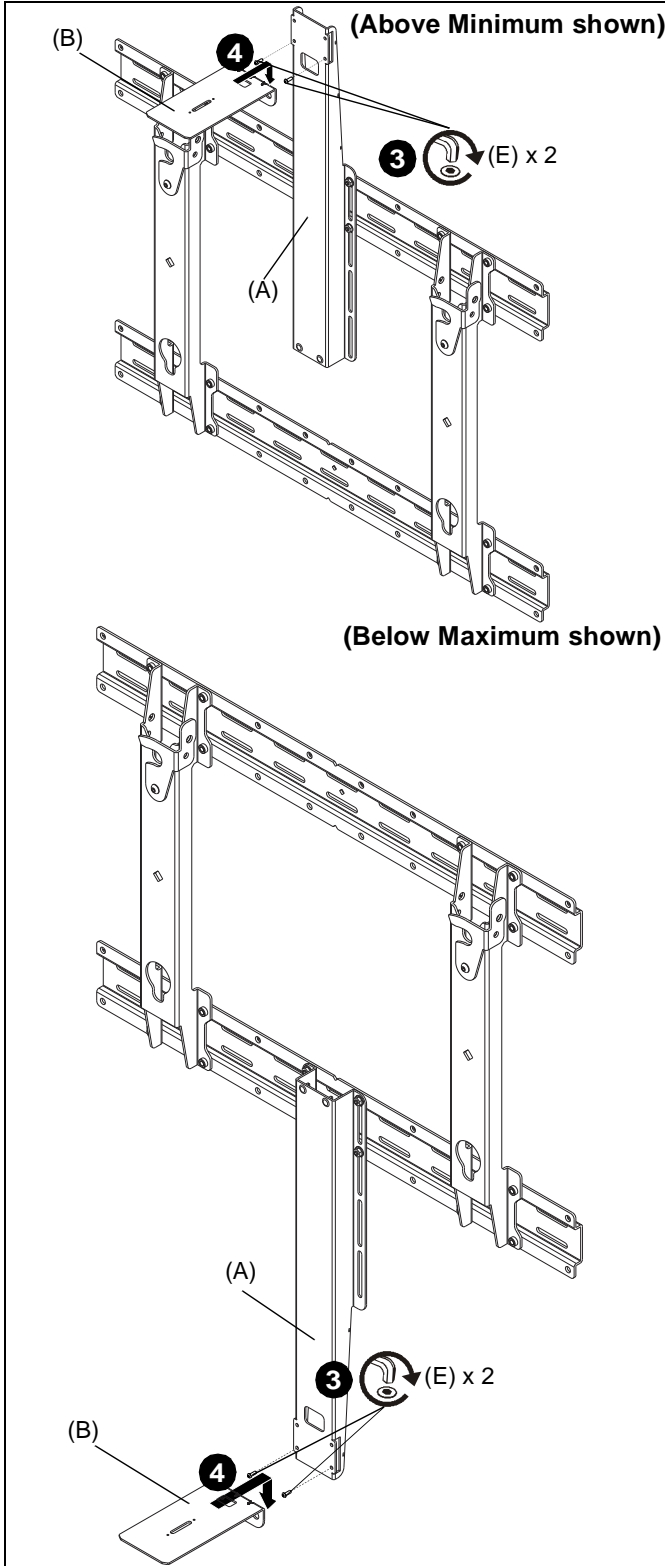

Figure 3
3. Loosely install two 1/4-20 x 3/4" button head cap screws (E) into holes on support shelf. (See Figure 3)
4. Hang camera shelf (B) onto screws. (See Figure 3)
5. Tighten two screws (E) to secure camera shelf (B) to support shelf (A). (See Figure 3)